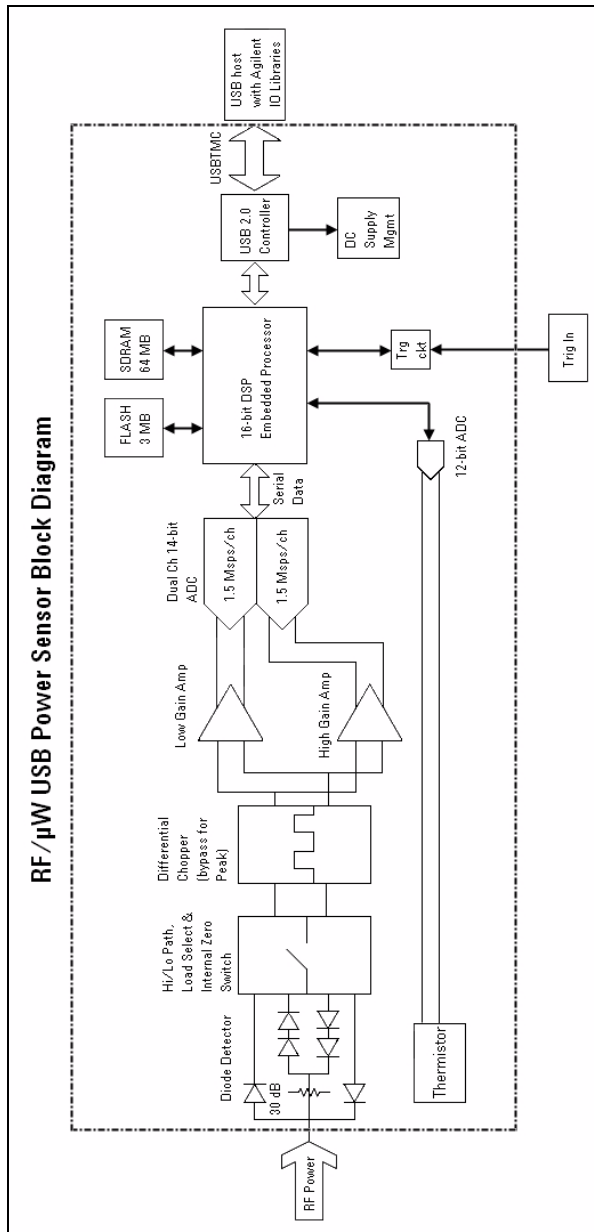

Figure 1-2 Block diagram of the RF/microwave USB power sensor
- Figure 1-2 Block diagram of the RF/microwave USB power sensor 8